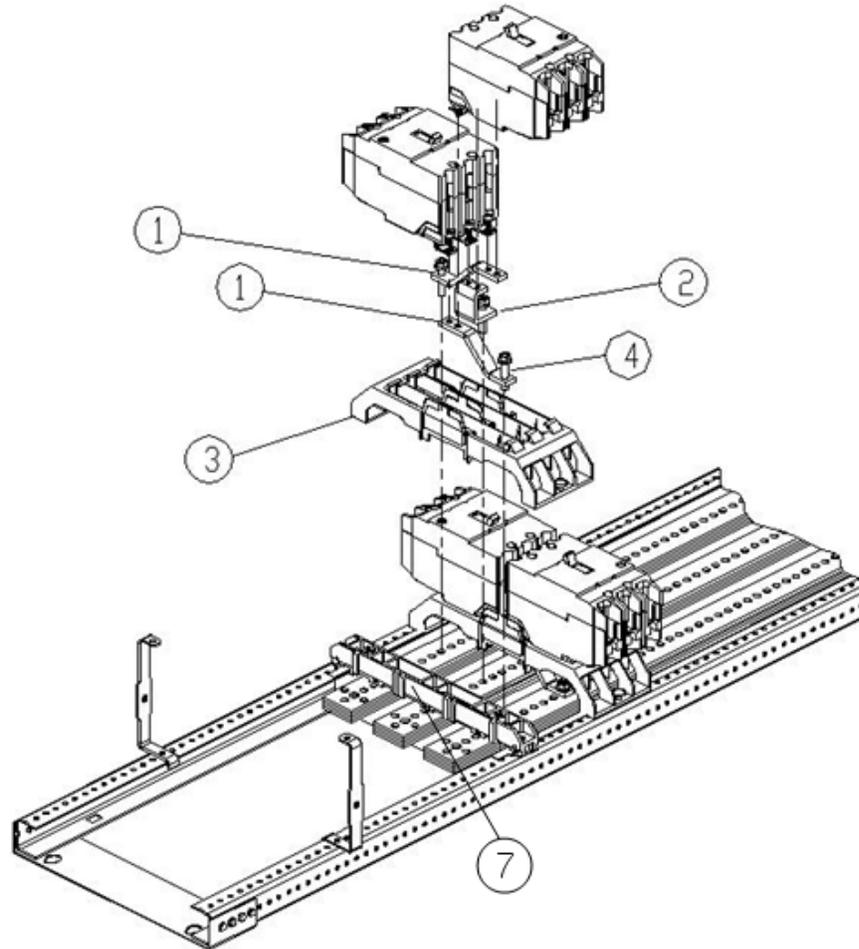

Figure 1. Installation of a TEY circuit breaker kit on left side of interior, catalog number ASPP6EY12D, into an A-Series® II Panelboards.
Use the following procedure to install a TEY circuit breaker kit. Call-out numbers in the illustrations and numbers in brackets in the text refer to the Item Numbers in Table 1. Installation of a three-pole kit is illustrated in Figure 1.
5. Place the breaker as shown in fig.1 such that breaker strap hole aligns with breaker mounting strap tapped hole and other end of breaker snaps with 3X base lancing slot provided and then tighten terminal screws completely with 27-36 in-lb.